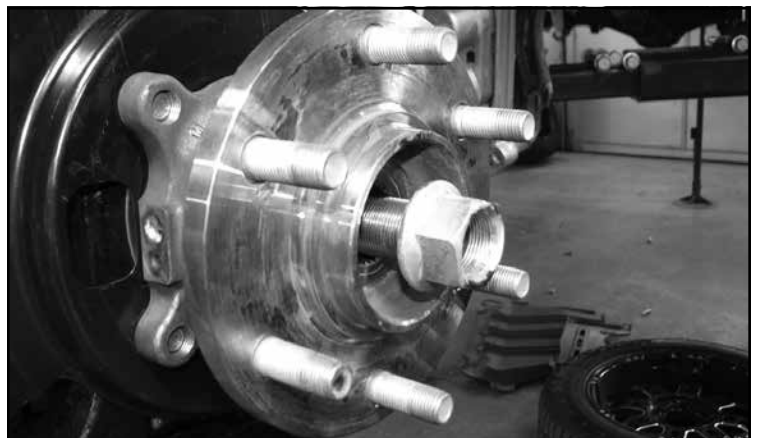

FIGURE 55 - STEP 39
39. Install the axle shaft center nut. Torque to 200 ft-lbs. And new cotter pin. **SEE FIGURE 55**